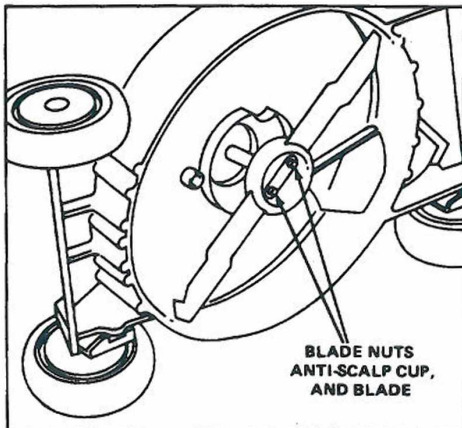

Figure 20
3. Tip mower on its right side (Fig. 20). Avoid rotating blade. Starting problems may result.
5. REMOVING BLADE — Grasp end of blade using a rag or thickly padded glove. Remove blade nuts, anti-scalp cup and blade (Fig. 20).